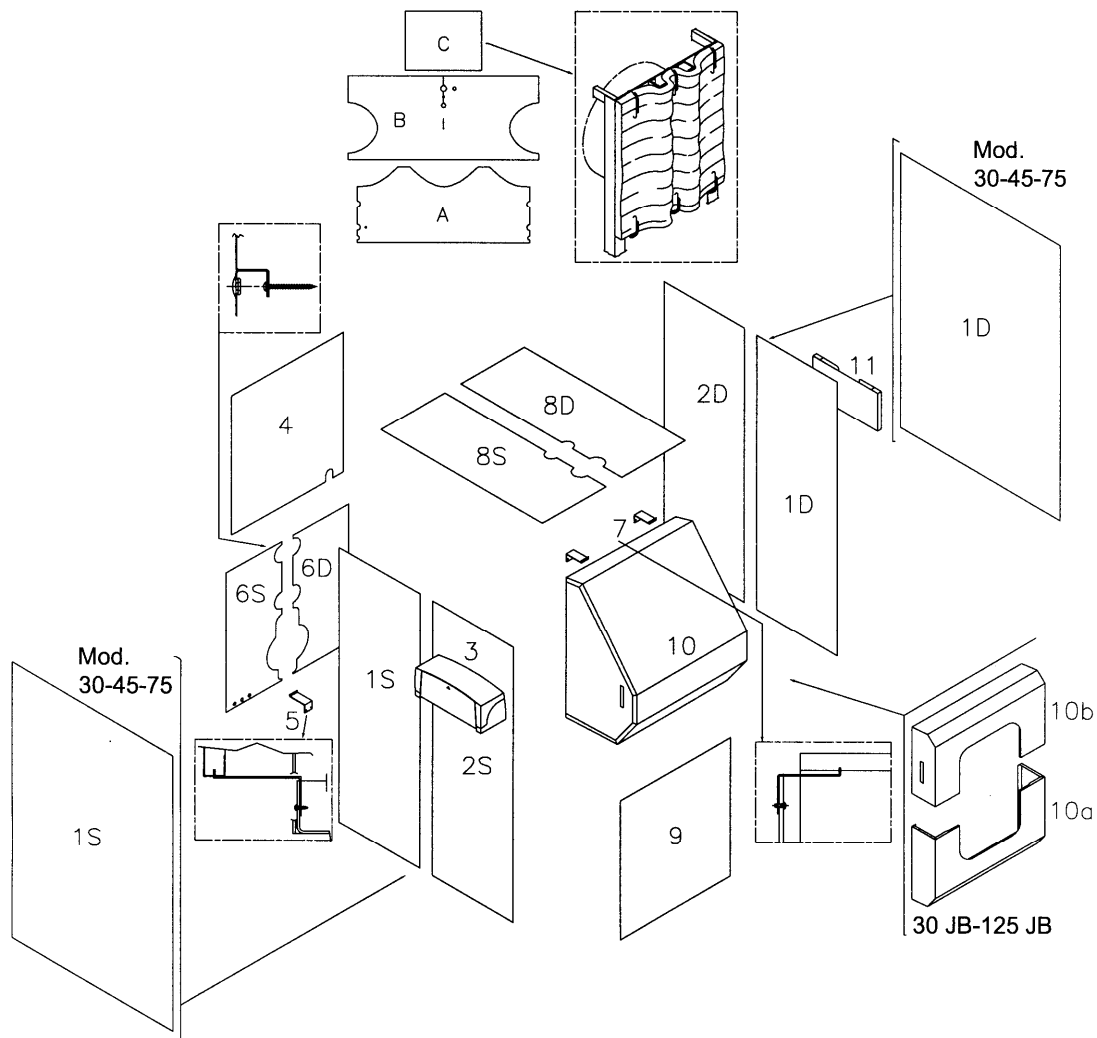

Fig. 4
- Wrap glass wool (A) around the column and attach with the clips.
- Wrap glass wool (B) around the upper cylindrical boiler body without covering the shaft/bulb holder located near the flanged outlet pipe and fix in position with the clips supplied.
- Then insulate the rear boiler plate, attaching the wool (C) to the springs on the edge of the plate (see figure).
5.2 BOILER CASING MOD. 45 GT/125 GT – 30 JB/125 JB (Fig. 4)
- Unwind the thermostat capillaries, fit the control panel (3) to the side (RH or LH), fastening with the screw, then insert the bulbs in the pocket. Hook the upper rear panel (4) to the sides.
- Fasten the support bracket (5) to the frame base L profile; insert the cable grommets in the panel holes (6S), hook the panel to the side panel and feed through the supply cable, then connecting the cable to the junction box. Hook on the panel (6D) and then fasten both using the screws at the top, and close the holes with the specific plugs provided (see figure).
- Fix the front/upper panel supports (7) to the boiler plate (excluded JB) and put on the upper panels (8S) and (8D). Hook on the front/lower panel (9) and the front/upper panel (10). For JB models, hook the front/central panel (10a) and the front/upper panel (10b). Finally, screw the document holder (11) on to the opposite side of the control panel (excluded mod. 30/45/75).